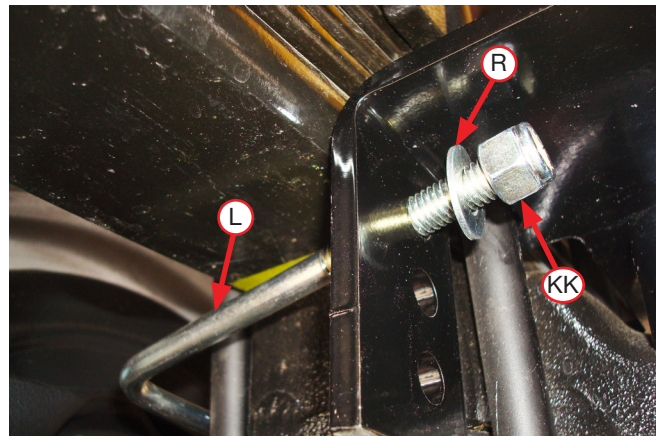

Fig. 29
3. Install the U-bolt (L) around the stock U-bolt/leaf spring assembly and insert through the topmost holes in the lower bracket main plates (Fig. 29). Cap with 3/8" flat washer (R) and 3/8" nylon lock nuts (KK). Snug bolts evenly, just enough to hold the lower bracket main plate flush against the stock U-bolts.